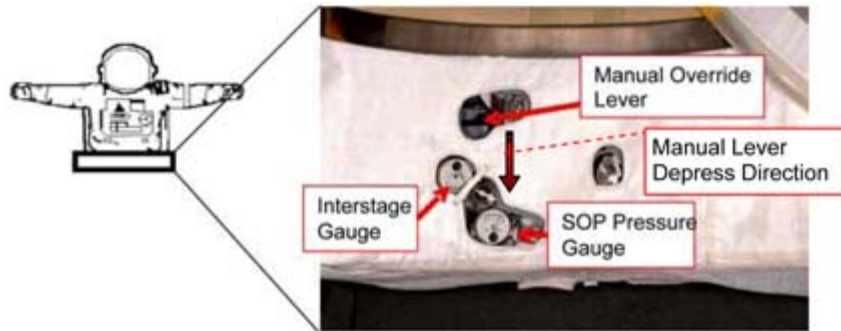

Figure 1.- SOP Gauges and Manual Override Lever.
78. ✓SOP gauge 5400 to 6800 (reference Figure 1)